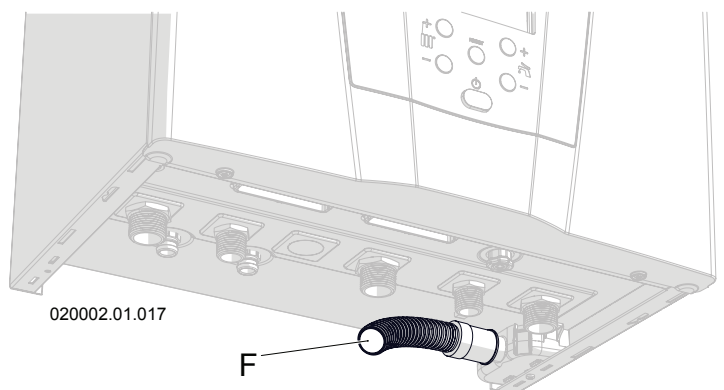
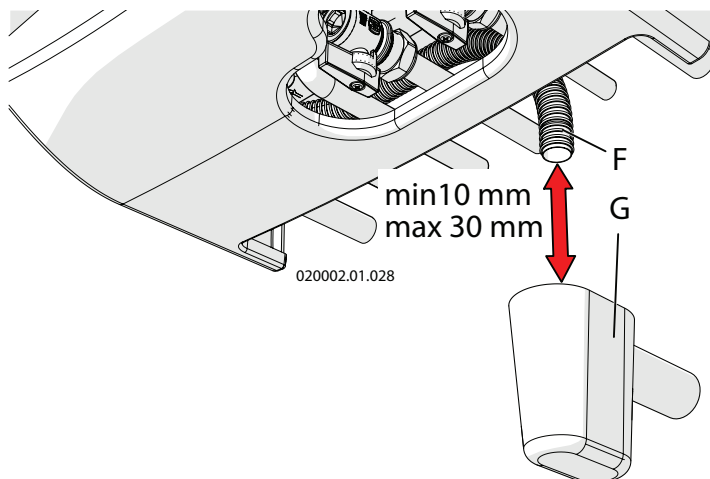

Figure 5-5 – Condensate drain pipe
Figure 5-8 - F = Condensate drain pipe
There is a siphon inside the boiler for the evacuation of condensate (see Figures 3-2 and 3-4, detail "40") and to prevent combustion products from escaping. The end of the siphon corresponds to pipe "F" in Figure 5-5. This end must be conveyed into another, anti-odour siphon (Figure 5-8, detail "G") to prevent bad odours returning into the environment (anti-odour siphon "G" is supplied on request). In particular, the condensate drain system must:
- ☞ Be for rooms used for residential purposes and for offices with more than 10 users; it can be connected to the domestic waste disposal plant by means of appropriate siphon with disjunction, capable of preventing the pressurisation of the system (the siphon is inside the boiler) and the return of bad odours from the sewers (detail "G" in Figure 5-8). If the room used for office purposes has fewer than 10 users, before connecting up the domestic waste drain, install a condensate neutraliser (see Section 9 for the acidity value of the condensate and the quantities).
The safety valve drain must be conveyed to pipe "F" in Figure 5-5, which must then be taken to the anti-odour siphon (detail "G", Figure 5-8). This drain with a siphon is used to prevent overpressures if the valve is opened, and it allows the user to check possible intervention.
The anti-odour siphon "G" in Figure 5-8 is provided on request.